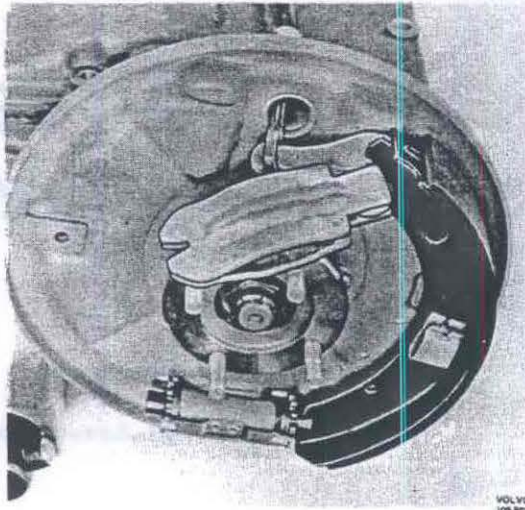

Fig. 43-211. Fitting the brakeshoe
6. Assemble the propeller shaft brake. First fit the lower brake shoe. Then the lever (Fig. 43-211), the upper return spring, the upper shoe, the lower return spring and the drum.